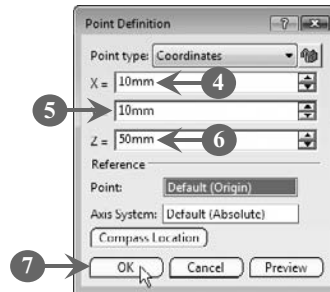

FIGURE 5.20
The **Point Definition** dialog box opens (Figure 5.20).
4. *Enter* a value representing the  $x$ -coordinate for the center of the circle in the **X =** box (Figure 5.20). In our case, we have entered **10 mm**.
5. *Enter* a value representing the  $y$ -coordinate for the center of the circle in the **Y =** box (Figure 5.20). In our case, we have entered **10 mm**.
6. *Enter* a value representing the  $z$ -coordinate for the center of the circle in the **Z =** box (Figure 5.20). In our case, we have entered **50 mm**.
- Click the **OK** button to close the **Point Definition** dialog box, as shown in Figure 5.20: